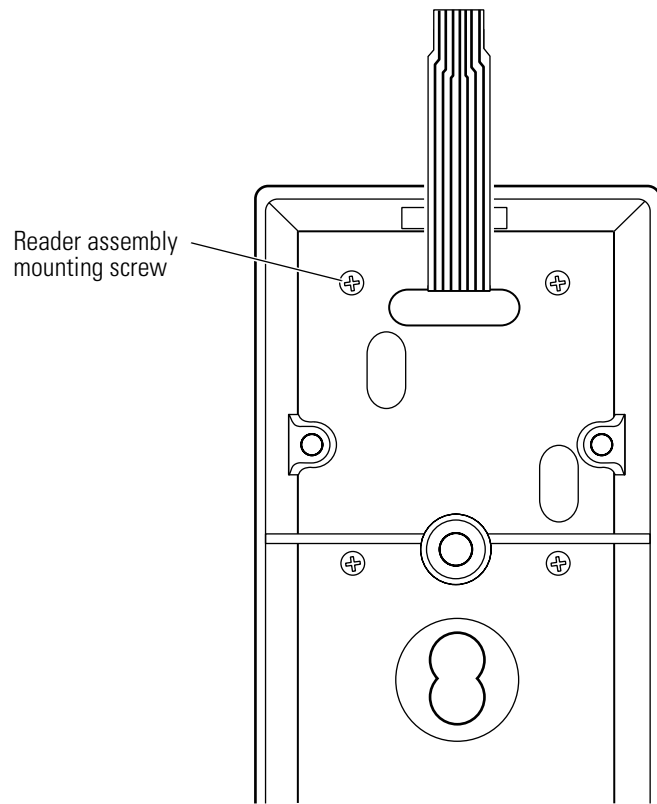

Figure 9.18 Removing and reinstalling the screws for the smart card reader assembly
2. Remove and save the four reader assembly mounting screws. See Figure 9.18.
2. Position the smart card reader assembly on the reader gasket and install the four reader assembly mounting screws. See Figure 9.18.